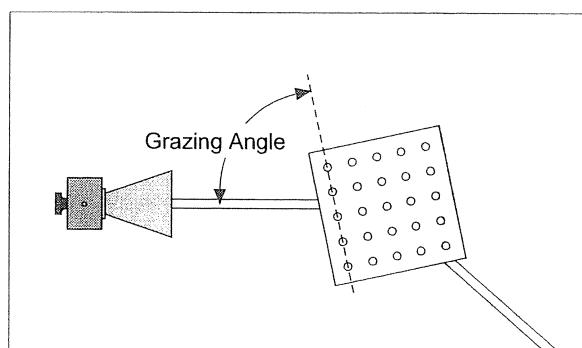

Figure 12.3 Grazing Angle
- ③ Rotate the crystal (with the rotating table) one degree clockwise and the Rotatable Goniometer arm two degrees clockwise. Record the grazing angle of the incident beam and the meter reading. (The grazing angle is the complement of the angle of incidence. It is measured with respect to the plane under investigation, NOT the face of the cube; see Figure 12.3.)
- ④ Continue in this manner, rotating the Goniometer arm two degrees for every one degree rotation of the crystal. Record the angle and meter reading at each position. (If you need to adjust the INTENSITY setting on the Receiver, be sure to indicate that in your data.)
- ⑤ Graph the relative intensity of the diffracted signal as a function of the grazing angle of the incident beam. At what angles do definite peaks for the diffracted intensity occur?